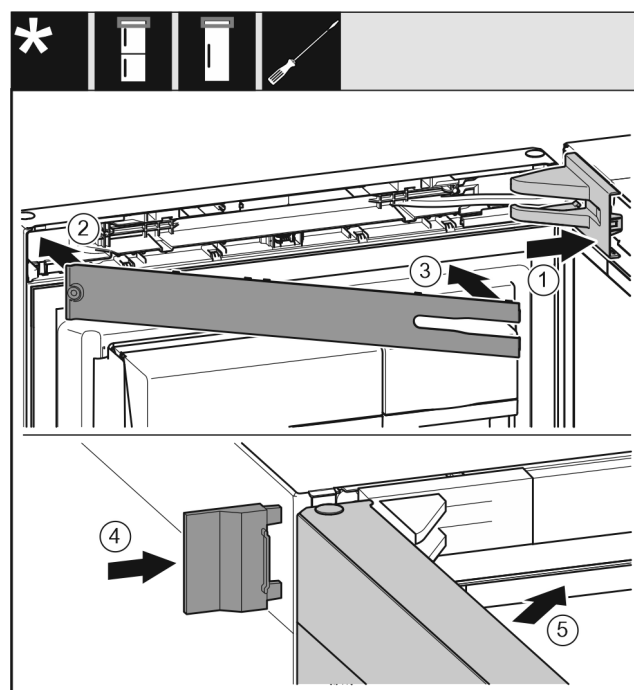

Fig. 25
- ▶ Position the bearing bracket cover and engage it. If necessary push it apart carefully. Fig. 25 (1)
- ▶ Place on the panel. Fig. 25 (2)
- ▶ Swing in the panel and latch it into place. Fig. 25 (3)
- ▶ Slide on the outer cover. Fig. 25 (4)
- ▶ Close the upper door. Fig. 25 (5)